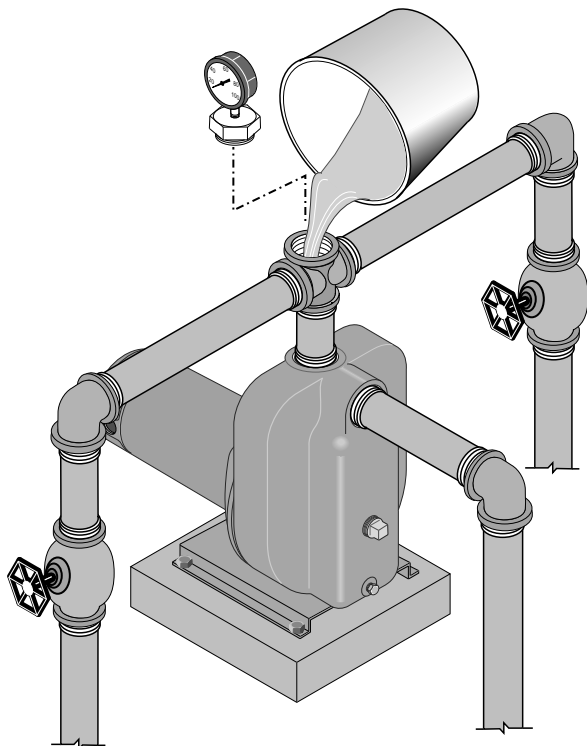

Figure 9 – Remove Priming Plug and Fill Pump Before Starting
1. Remove priming plug (Figure 9).